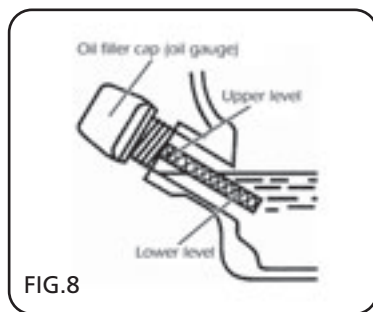

FIG.8
9.3 CHECKING THE ENGINE OIL - FIGS. 8 - 9